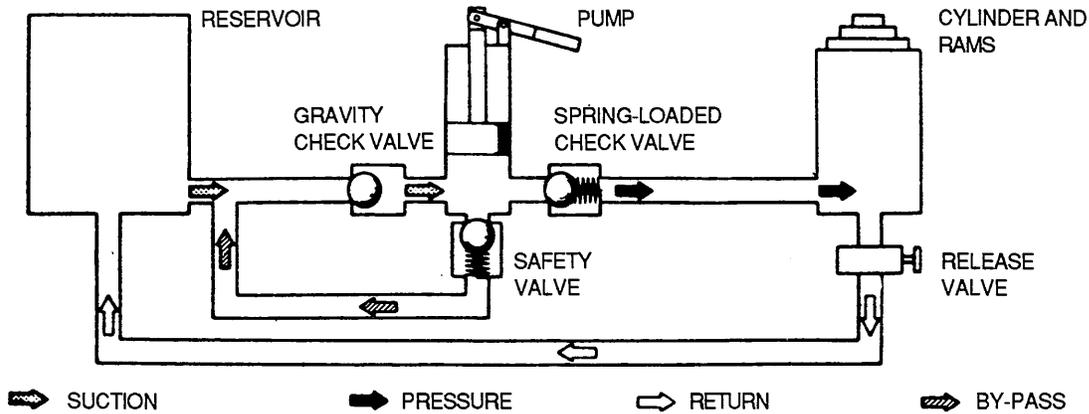

Figure 9-6. Jack Hydraulic Schematic Diagram
(1) Purpose. Aircraft jacks are designed to raise the entire aircraft or a specific portion of the aircraft so that maintenance can be performed. Jacks come related with different lifting capacities, ranging from 3 tons to over 25 tons.
(2) Principles of operation. A generalized jack hydraulic schematic diagram is shown in Figure 9-6. The pump handle is moved up and down to raise the cylinder and rams. On the up stroke of the pump handle, the pump piston draws hydraulic fluid from the reservoir. On the down stroke, the piston pushes the hydraulic fluid under pressure through the spring-loaded check valve